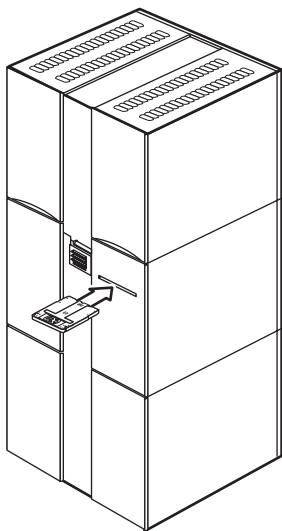

Figure 15: Loading media
3. Load UDO media into the drive by inserting the disk gently but firmly into the mailslot, shutter end first, and with the side you want to access facing up (A or B). See Figure 15.